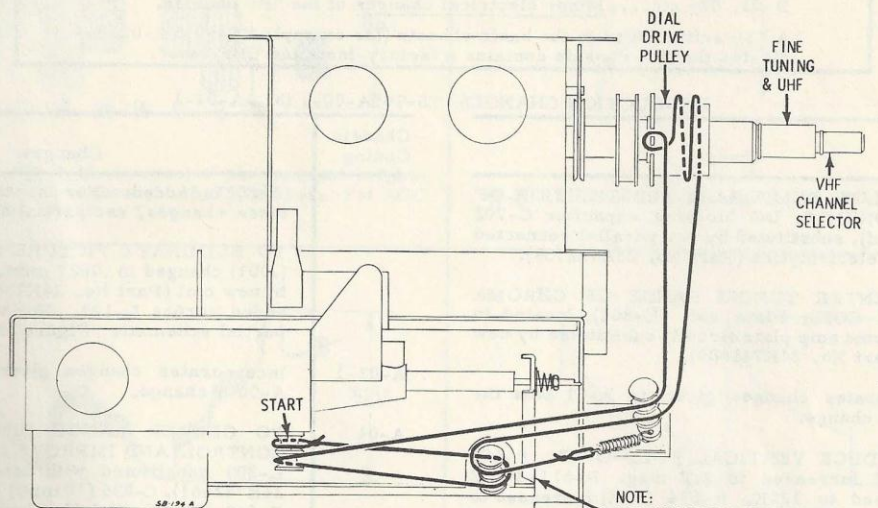

FIGURE 32. DIAL RESTRINGING DETAIL (UHF MODELS ONLY)
5. String dial cord as shown in illustration (Fig. 32).